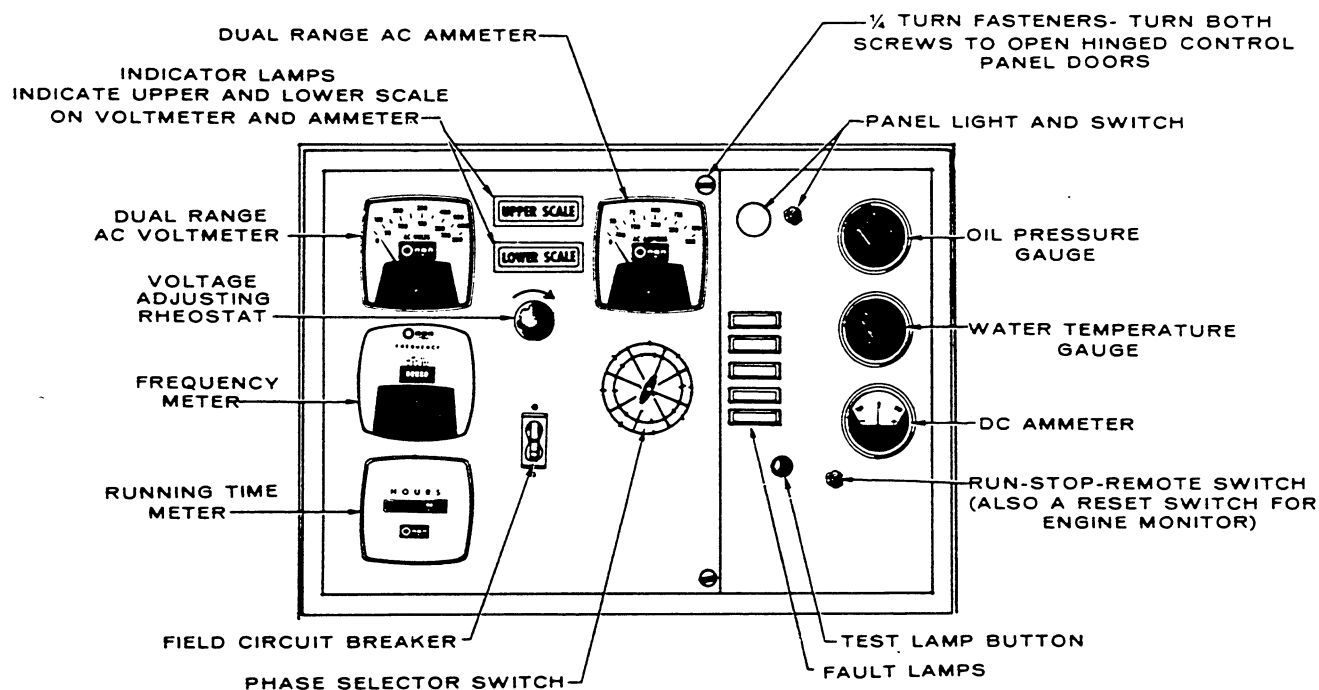

FIGURE 2. OPTIONAL CONTROL PANEL (FIVE FAULT LAMPS)
**Warning Lights:** Eliminates the one "Fault" light and substitutes five indicator (see Figure 2) lights to give warning of—